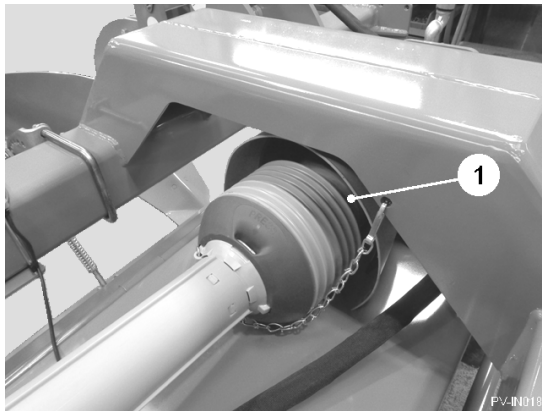

Fig. 6
The LH and RH drive shafts are each fitted with a torque limiting clutch (item 1, fig. 6). The clutch is preset and has no user adjustment. If the clutch repeatedly trips then it may be necessary to revise the method of working, i.e. shallower first pass, or slower forward speed to prevent overloading the machine.